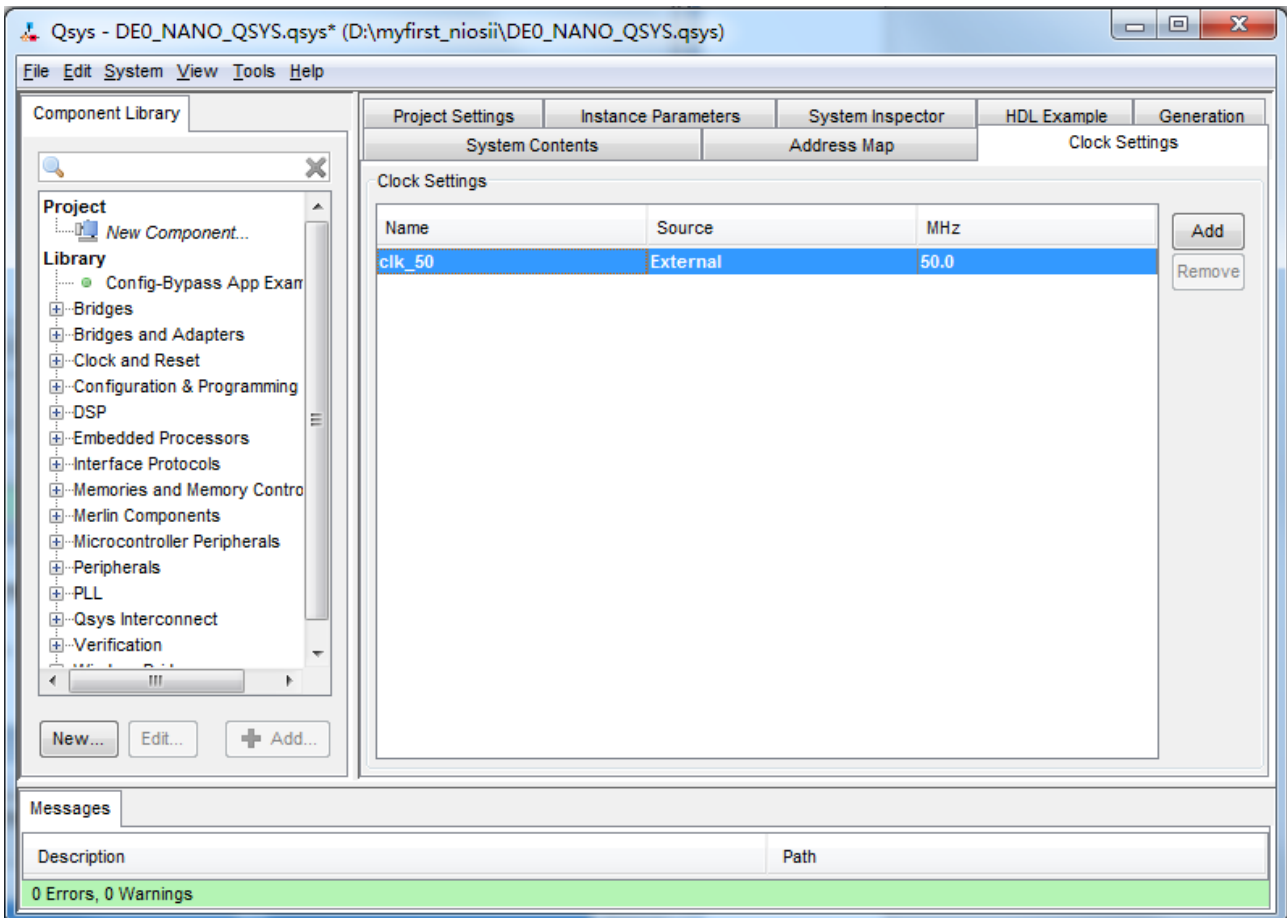

Figure 1-14 Rename Clock Name
8. Click the Name of the Clock Settings table, rename clk\_0 to clk\_50. Press Enter to complete the update. See Figure 1-14.